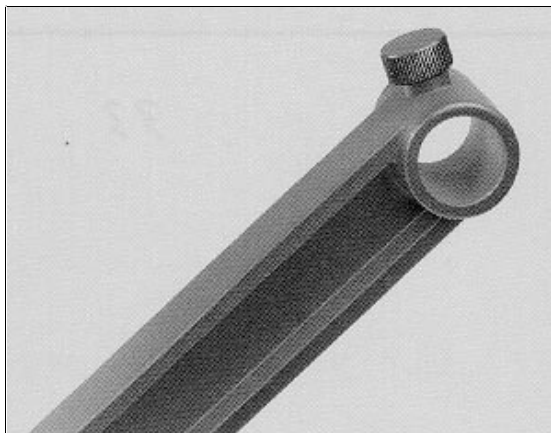
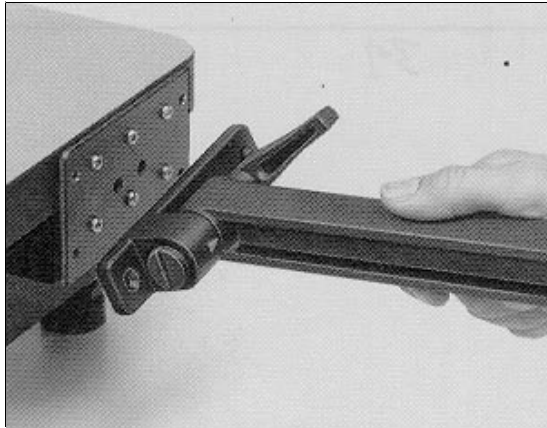

Figure 2-33. Lamp Arm Orientation, Screw at Top
Figure 2-34. Lamp Arm Orientation, Angle Indicators Facing Front of Baseboard
- a. Orient the lamp arms so the screw faces up (figure 2-33) and the angel indicator faces the front of the baseboard (figure 2-34).